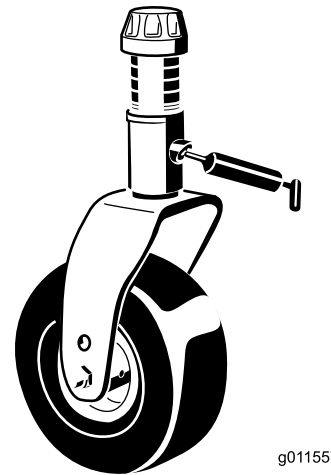

Figure 39
- Castor fork shaft bushings (2) (Figure 39)